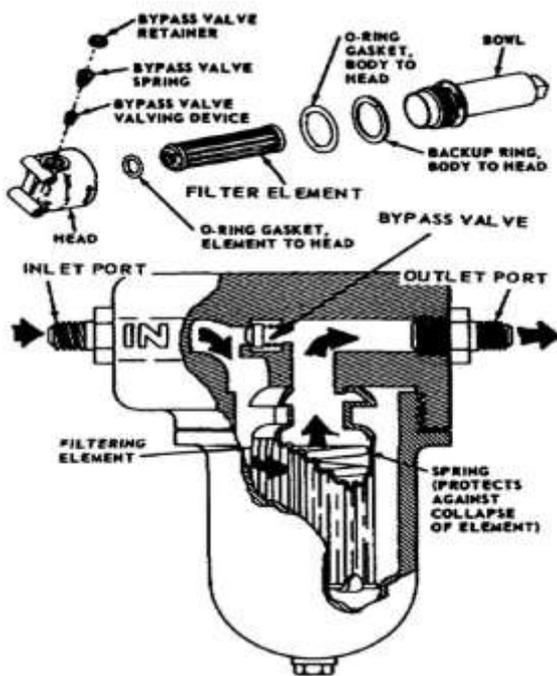

Figure 2
b. Filters. A filter removes small foreign particles from a hydraulic fluid and is most effective as a safeguard against contaminants. Filters are located in a reservoir, a pressure line, a return line, or in any other location where necessary. They are classified as full flow or proportional flow. Figure 2 in a full-flow filter, all the fluid entering a unit passes through a filtering element. Although a full-flow type provides a more positive filtering action, it offers greater resistance to flow, particularly when it becomes dirty. A hydraulic liquid enters a full-flow filter through an inlet port in the body and flows around an element inside a bowl. Filtering occurs as a liquid passes through the element and into a hollow core, leaving the dirt and impurities on the outside of the element[2]. A filtered liquid then flows from a hollow core to an outlet port and into the system.